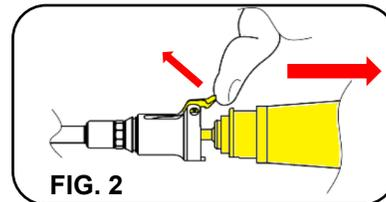

FIG. 2
1. Pull the release tab to disengage the camera from the coupler, then carefully remove the camera. (FIG. 2)